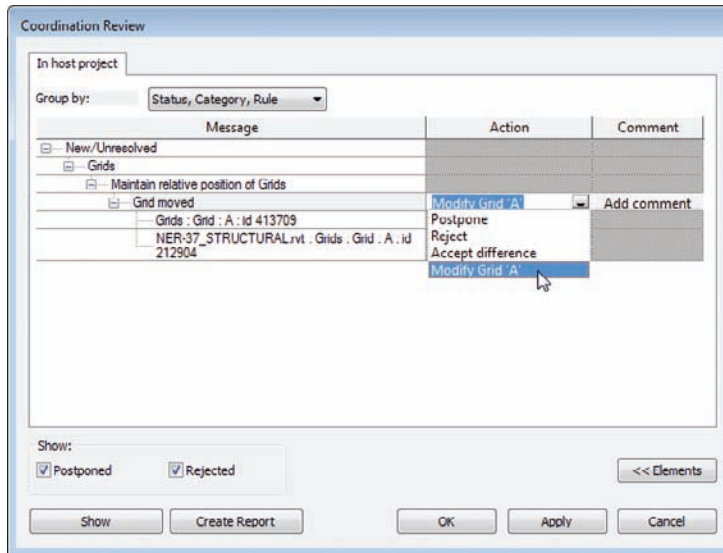

FIGURE 20.15 Telling Revit to automatically move the grid
10. In the Coordination Review dialog, expand the category for the Grids (under the New/Unresolved category), as shown in Figure 20.15.